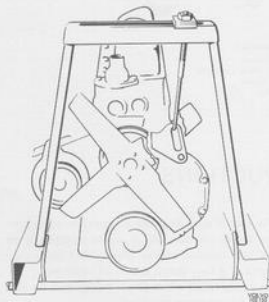

Fig. 6-16. Lifting tool for engine
1. Install the lifting tool 2727 according to Fig. 6-16. Fix the plate with the upper screw (no flat washer) for the timing gear casing. Raise the engine until the weight is taken off the front engine mountings. Temporarily block the vent-hole in the brake fluid container cover to reduce leakage. Remove the hub caps and loosen a couple of turns the nuts for the front wheels.